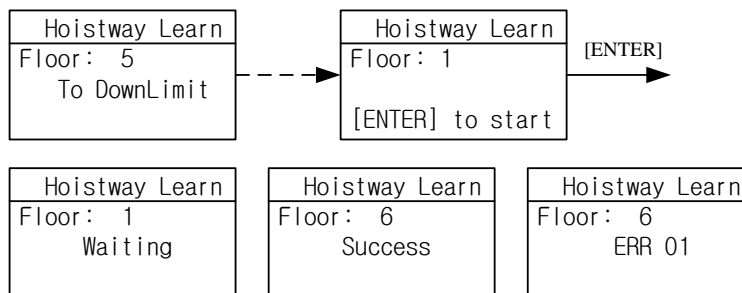

Figure 7.4 Hoistway Parameter Self-Learning Procedures
- 4. Enter elevator hoistway self-learning menu through digital operator, follow the learning procedures shown below in Figure 7.4